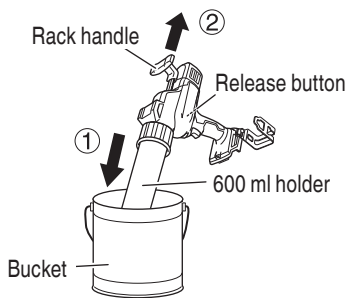

Fig. 23
- (1) Place the tip of the 600 ml holder into the container that the sealing material is in. While pressing the release button to unlock, pull the rack handle to suction up the sealing material. (Fig. 23)